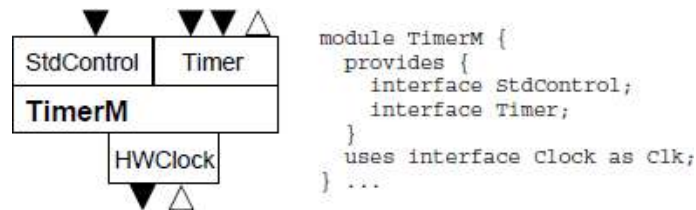

Figure 5.3 Specification and graphical depiction of the TimerM component
- nesC applications are built by writing and assembling components. A component provides and uses interfaces. These interfaces are the only point of access to the component. An interface generally models some service (e.g., sending a message) and is specified by an interface type. Figure 5.3 shows the TimerM component, part of the TinyOS timer service that provides the StdControl and Timer interfaces and uses a Clock interface (all shown in Figure 5.4).
- In Figure 5.3 provided interfaces are shown above the TimerM component and used interfaces are below; downward-pointing arrows depict commands and upward-pointing arrows depict events. Although this same interaction between the timer and its client could have been provided via two separate interfaces (one for start and stop, and one for fired), grouping these commands and events in the same interface makes the specification much clearer and helps prevent bugs when wiring components together.
- A component can provide and use the same interface type (e.g., when interposing a component between a client and service), or provide the same interface multiple times. In these cases, the component must give each interface instance a separate name using the as notation shown for Clk in Figure 5.3.